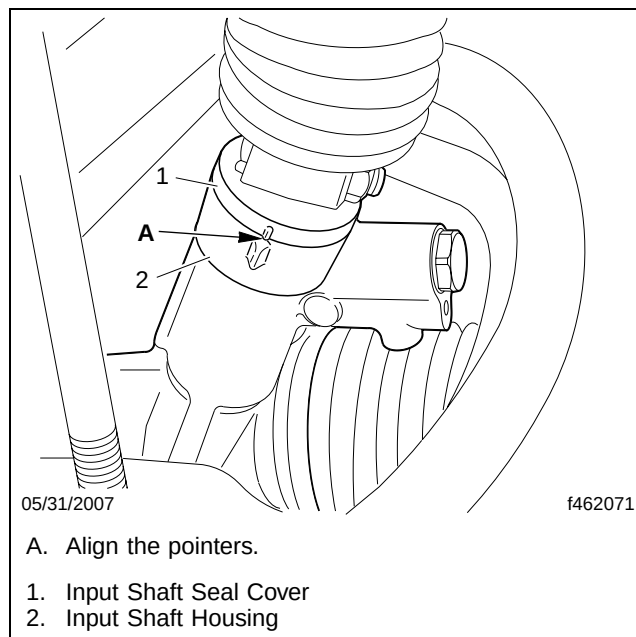

Fig. 12, Pointer Alignment
- 41.2 Align the pointers on the input shaft seal cover and the input shaft housing. See **Fig. 12**.
45.2 With the wheels on turnplates, center the rack travel by aligning the timing pointers on the input shaft seal cover and the input shaft housing. See **Fig. 12**.